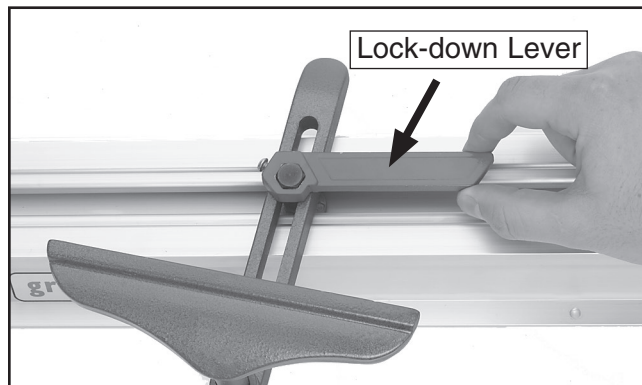

Figure 9. Securing the toolrest base.
6. Turn the lock-down lever clockwise to secure the toolrest base to the lathe bed as shown in **Figure 9**.